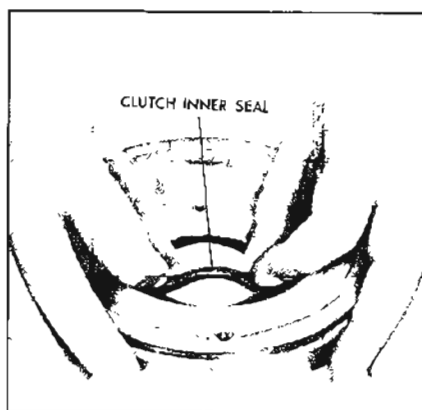

Figure 5-634
1. Install a new inner clutch piston seal on piston with lips facing away from spring pockets. See Figure 5-634.